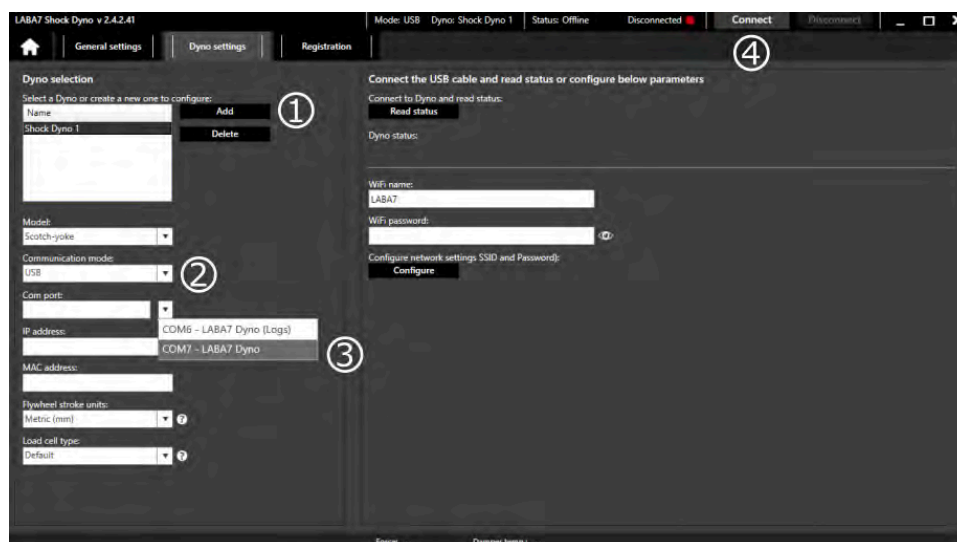

Figure 19
6. Press “add” (Figure 19 – Step 1).
7. Select the USB communication mode (Figure 19 – step 2).
8. From 2 newly appeared com-ports select **COM6 - LABA7 Dyno** (Figure 19 – Step 3).
9. Press “connect” (Figure 19 – step 4).